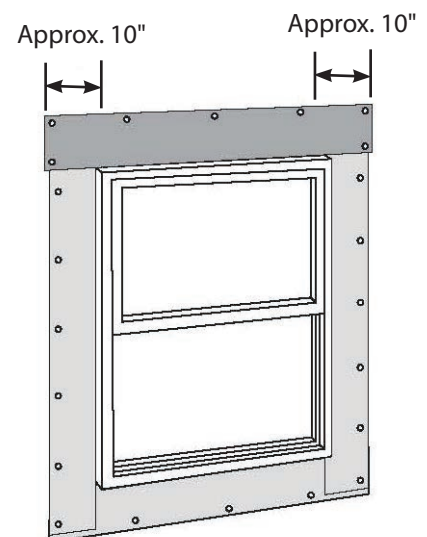

FIGURE 5
- Finally, apply the flashing at the top of the window. Applying in this order will help prevent water leakage (**FIG 5**). (Reference ASTM E2112)